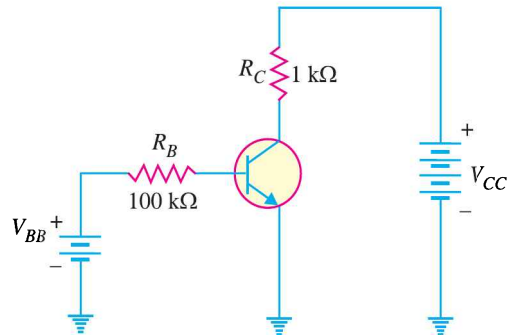

Fig. 8.74
14. A base current of 50 μA is applied to the transistor in Fig. 8.74 and a voltage of 5V is dropped across R_C . Calculate α for the transistor. **[0.99]**